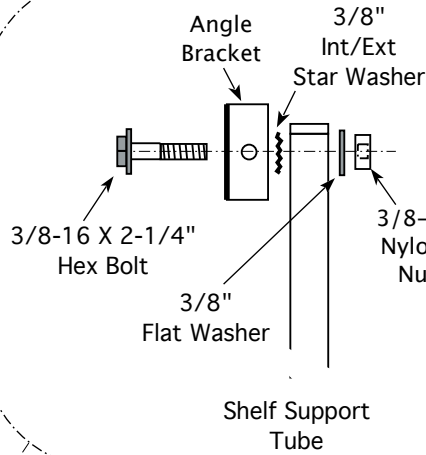

**Figure 3**
- 2) Attach the main mounting platform to the brackets that were installed in step 1 as shown on Page 4, figure 3. Check the level of the main mount at this time and make any adjustments to set the main mounting platform level from left to right. After this is done tighten down the bolts to hold the right angle brackets to the mounting rail only. Do not tighten the bolts that connect the main bracket to the angle brackets.